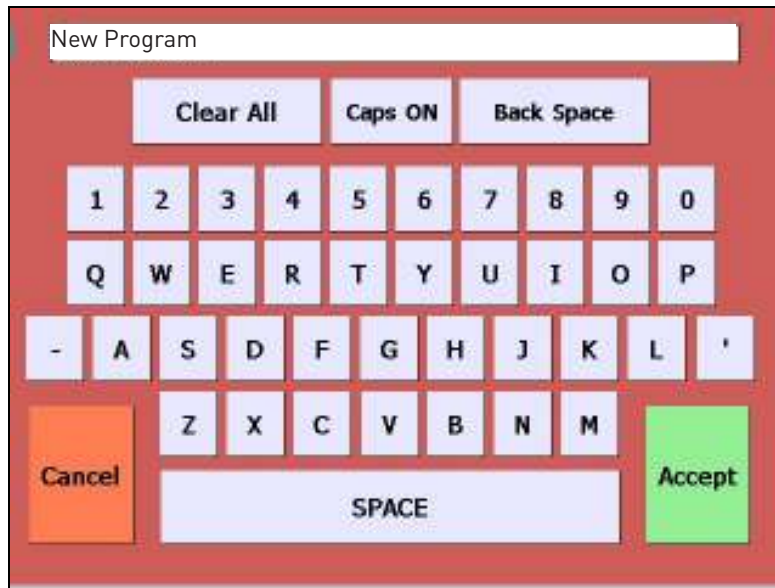
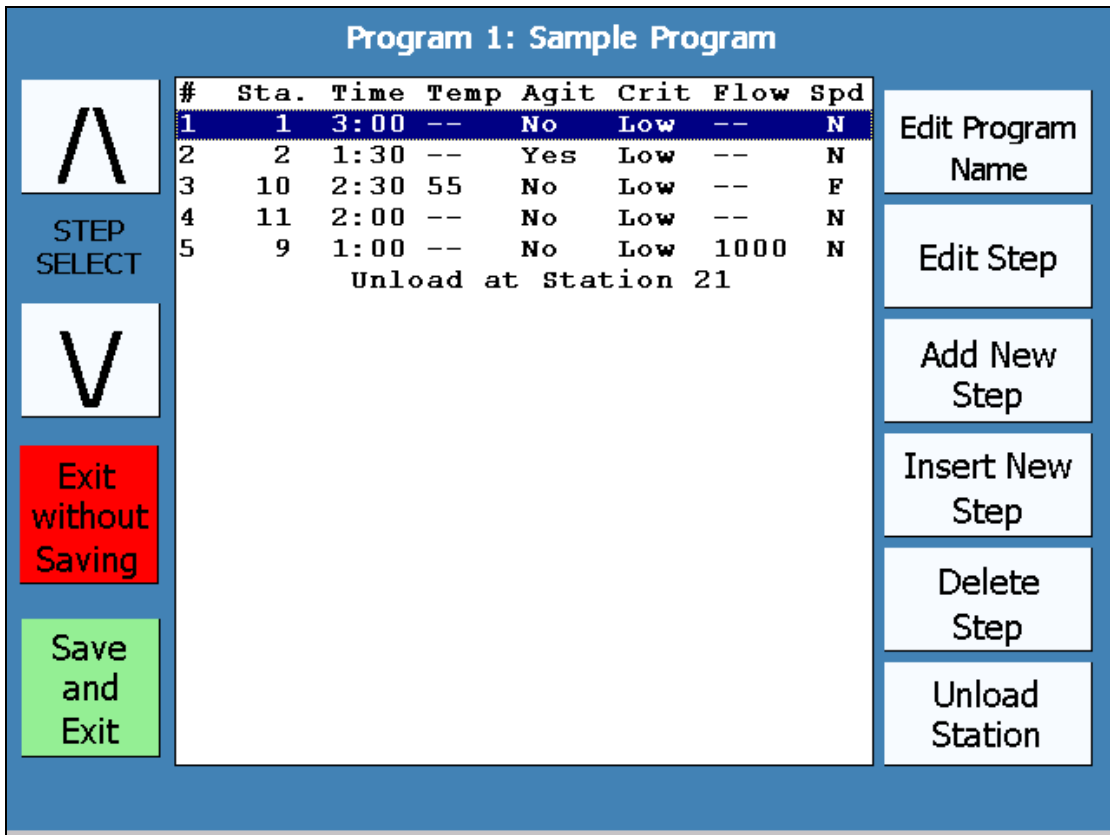

Figure 0-2: Onscreen Keypad
Figure 0-7: Program Steps Summary Screen
4. To name the program, select **Edit Program Name** as shown in Figure 0-7: Program Steps Summary Screen. An onscreen keypad as shown in Figure 0-2 will appear.
17. Once all desired steps have been programmed, select . A summary screen similar to the screen shown in Figure 0-7 will be displayed.